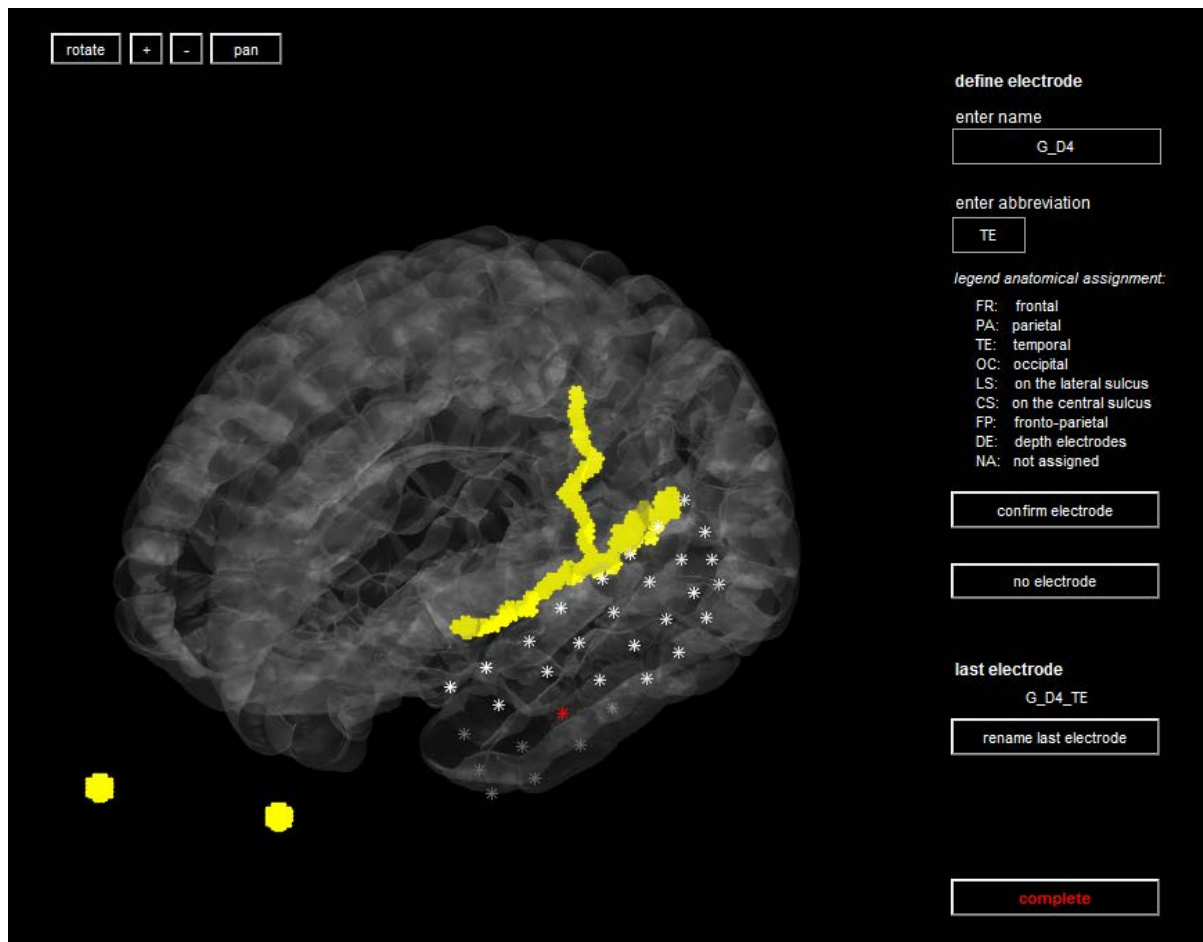

Figure 4: Figure used for pre-allocation of electrodes to lobes. Stars represent electrode markers; sulci (and eyes) are marked in yellow
For starting the assignment click on the button *assignment to electrode names* in ELAS toolbox. You will be asked to type patients name and name of electrode group (e.g. G or FAL, TB,...) before the assignment interface opens (see fig. 4). Before you start, get the y-coordinate of the end point of the horizontal ramus (lateral sulcus), you will need it!
- Use implantation scheme (clinics) in order to obtain the name of electrode currently marked with a red star (fig. 4). Grey stars represent electrodes already marked, white ones the electrodes that still have to be assigned to.